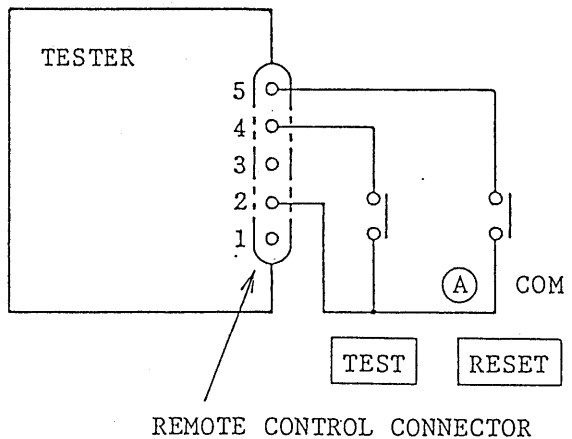

Figure 4.3
- ① By controlling the TEST and RESET contacts shown in Figure 4.3, the test voltage can be on-off controlled in the same manner as done locally on the instrument front panel.
- ③ Logic elements (transistors, FET's, or photocouplers) may be used instead of the switches in Figure 4.3. The signal status for such operation is shown in Figure 4.5. The input conditions of this instrument for such operation are as follows:
- ④ As for the elements to be connected to the Tester, the use of photo-couplers as shown in Figure 4.5 or relays as shown in Figure 4.3 would be advantageous from the viewpoint of preventing erroneous system operations which could be caused by noise. Although the Testers are incorporated with the various provisions to guard it against erroneous operations caused by noise generated by itself or its related devices, it is most recommendable to take full attention to prevent noise when setting up the measuring system.